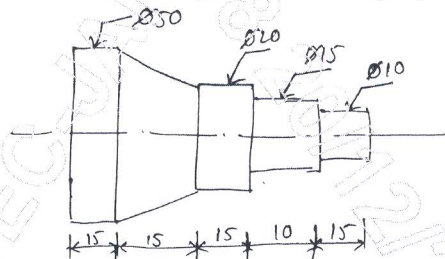

Fig. Q8(b)
b. Write the CNC part program for the sketch given below Fig. Q8(b).